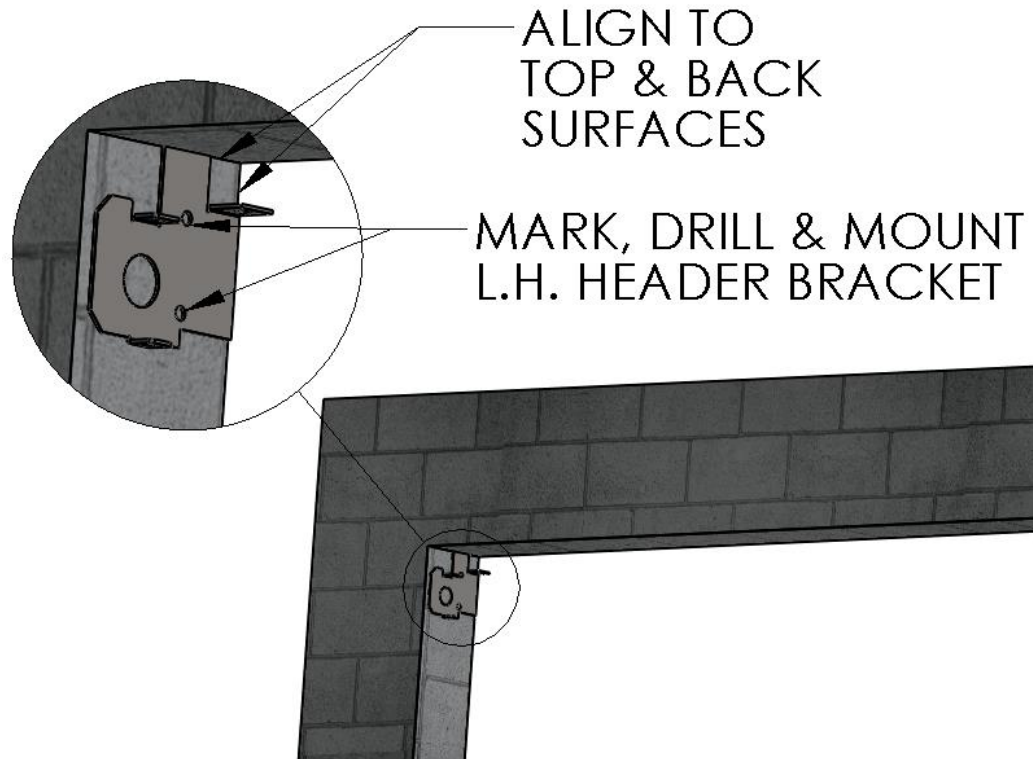

Figure 3 MARK, DRILL, INSTALL L.H. HEADER MOUNTING BRACKET
3. At the upper left of the opening, use the L.H. Header Mounting Bracket to transfer the hole locations to the mounting surface, and install this bracket. (Figure 3 MARK, DRILL, INSTALL L.H. HEADER MOUNTING BRACKET)